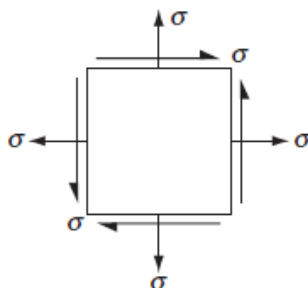

Figure 5 Question 8.
8. The maximum principal stress for the stress shown in Figure 5 is: